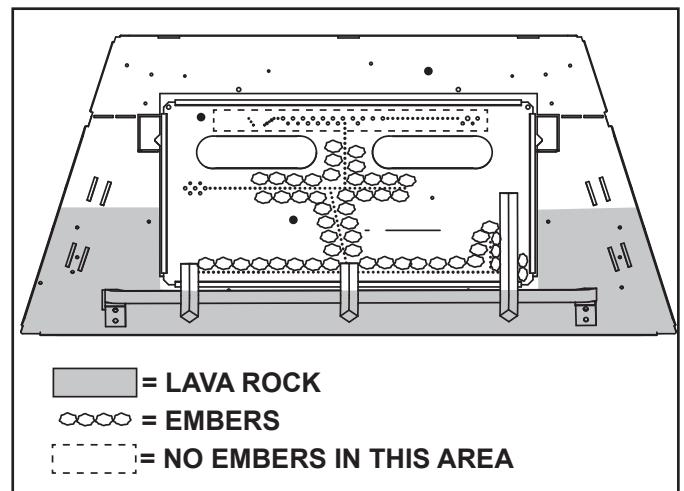

Figure 11.3 Placement of Embers
See Figures 11.3. Place a small amount of 1/2 in. diameter pieces (dime-size) of ember material on the burner top. Be careful not to cover burner ports. It is not necessary to use the entire bag. Save the remaining amount for future use.
- Place dime-size pieces of Glowing Embers® just in front of the port trail, but not on or in between the ports. See Figure 11.3. Care should be taken so that the ports are not covered. Failure to follow this procedure will likely cause lighting and sooting problems.